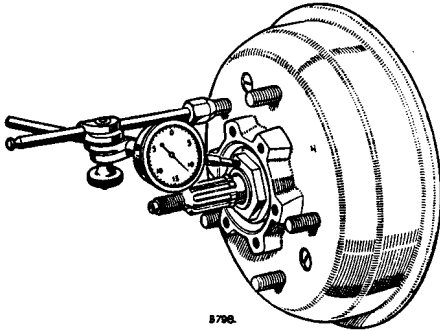

Fig. 70. Checking hub end-float
151. The adjusting procedure for the rear hub is exactly as that on the front hub. Page 77, Paragraph 66 covers the procedure to be carried out except that items 2 and 10 are not applicable. See Fig. 70.
- (2) Drain off the oil from the universal joint housing (remove both drain and filler plugs).
- (3) Remove hub cap (press fit on the driving member).
- (4) Place a drip tray below the hub and remove the driving member and joint washer from the stub shaft and the hub.
- (5) Mount a dial test indicator on one of the road wheel studs, using the bracket illustrated at Fig. 70. The total hub movement should be .004 to .006 in. (0,10 to 0,15 mm).